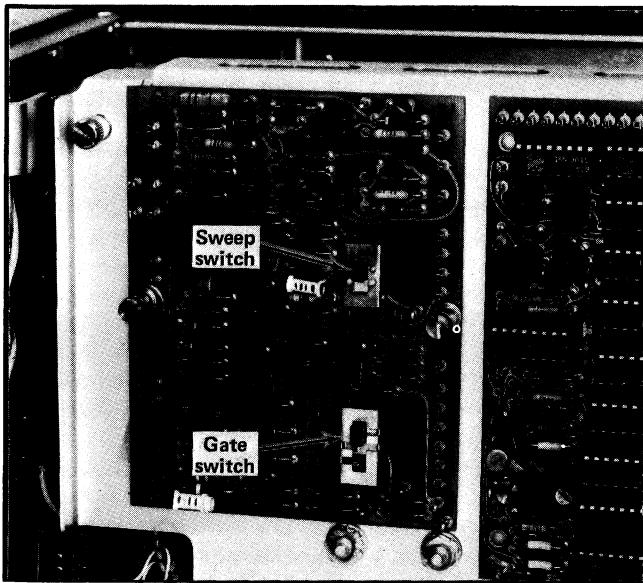

Fig. 2-9. Location of Sweep and Gate switches (behind right side panel).
**+ Sawtooth.** The + SAWTOOTH connector provides a positive-going sample of the sawtooth signal from the time-base units in the horizontal plug-in compartments. An internal Sweep switch (located behind right side panel; see Figure 2-9) allows the output sawtooth to be selected from the time-base unit in either the A HORIZ or B HORIZ compartments. Rate of rise of the sawtooth output signal is about 50 millivolts/unit of time into a 50-ohm load or about one volt/unit of time into a one-megohm load. Unit of time is determined by the time-base time/division switch (e.g., if time/division switch is set to one
**+ Gate.** The + GATE output connector provides a positive-going rectangular output pulse from the time-base units in the horizontal plug-in compartments. The Gate switch (located behind the right side panel; see Fig. 2-9) allows the output signal to be selected from the time-base unit in the A HORIZ compartment, B HORIZ compartment, or the delayed gate from a delaying time-base unit in the A HORIZ compartment. Duration of the gate output signal is the same as the duration of the respective sweep or, in the case of the delayed gate, it starts at the end of the delay period and lasts until the end of the sweep from the delaying time-base unit. Amplitude of the output signal at the + GATE connector is about 0.5 volts into 50 ohms or about 10 volts into one megohm.